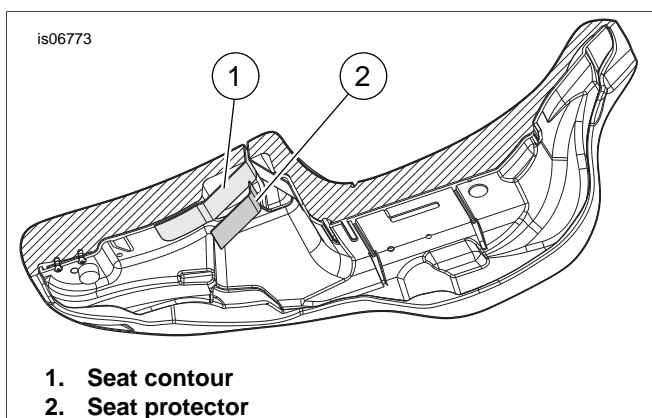

Figure 10. Underside of Seat
13. See Figure 10. Note the shape of the surface the seat protector (2) covers and gently form the protector to better fit the seat contours (1).